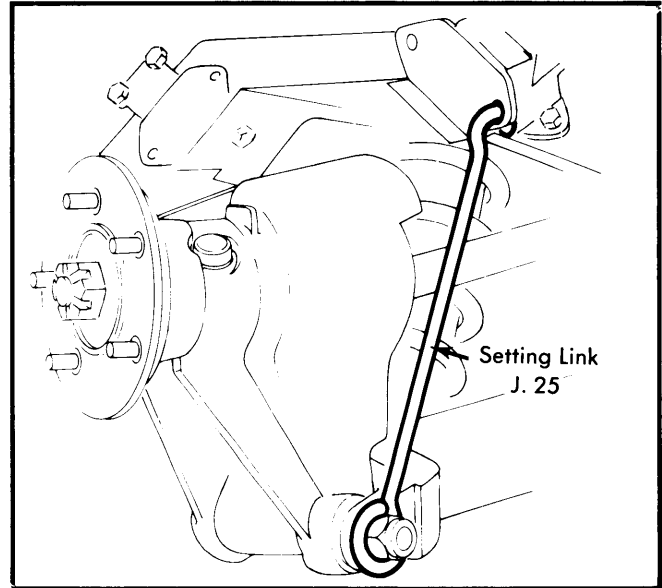

Fig. 2 Rear Suspension in Locked Position with Special Tool
- 3) Compress rear suspension and install setting links (J. 25) to lock rear suspension in place. See Fig. 2. Vehicle is now locked in half-loaded condition and caster and camber can be checked and adjusted.